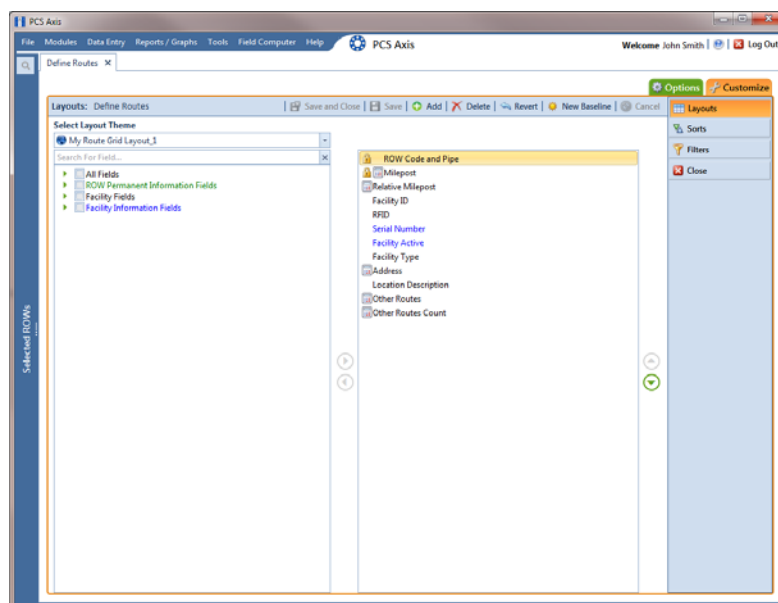

Figure 8-44. Layouts
- 7 Click  **Save** to save changes. The layout theme includes all fields listed in the right pane (Figure 8-44, page 368).